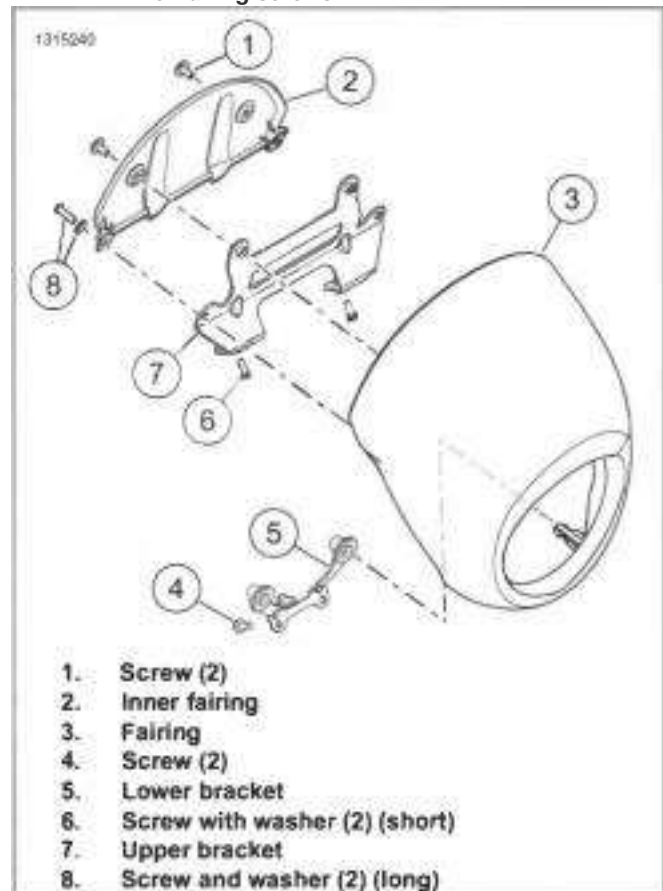

Figure 3-108. FXLRS Fairing
1. See Figure 3-108. Remove fairing.
- a. Remove screws and washers (8).
- b. Pull fairing (3) away from upper bracket (7).
- c. Pull speed screen away from lower bracket (5) to remove posts from grommets.
1. See Figure 3-108. Remove inner fairing.
- a. Remove screws (1).
- b. Remove inner fairing (2).
- a. Remove screws (6).
- b. Remove upper bracket (7).
- b. Remove lower bracket (5).